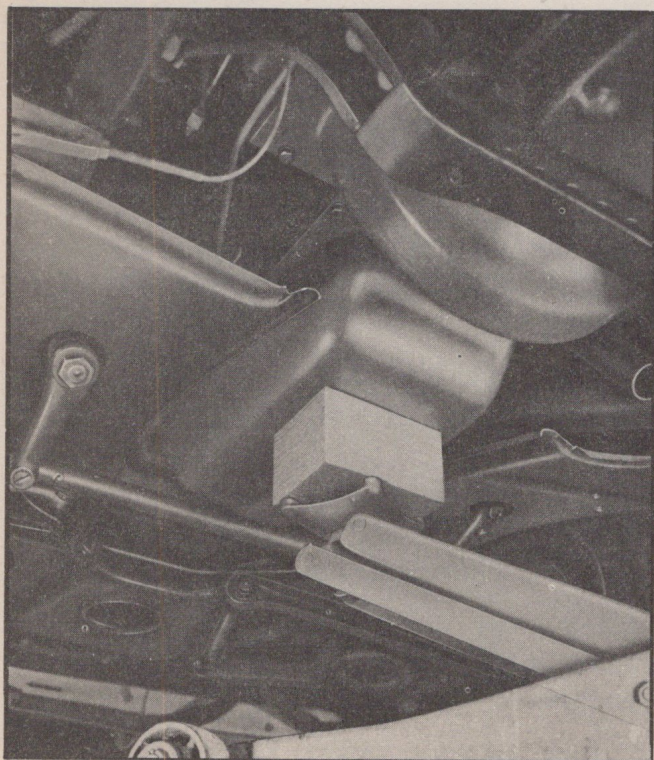

Fig. 103—Raising Rear End of Engine
16. With a 4" x 4" x 10" block of wood held on a hydraulic floor jack pad and placed between the rear and center of engine oil pan, raise the back end of engine until the rear engine mountings are approximately $\frac{1}{2}$ " above the cross member (Fig. 103).